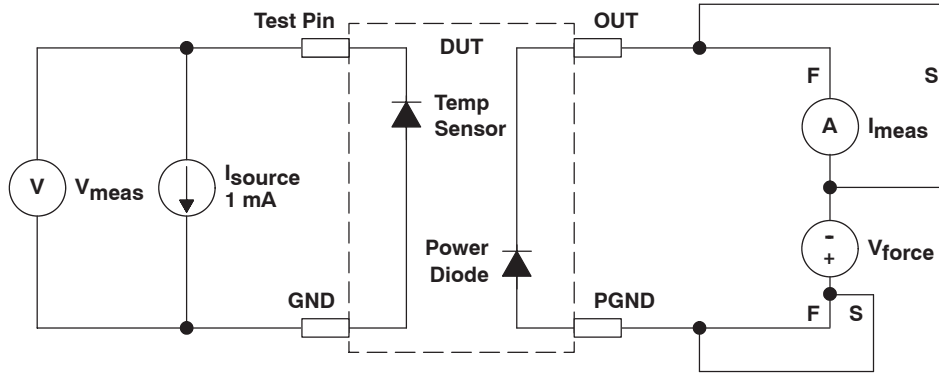

Figure 4. Complete Theta Ja Test Setup
1. Remove the PCB from the temperature chamber or temperature forcing device. Leave the diode connections intact from Section 3. Use the setup described in Section 3 to measure the change in junction temperature as power is dissipated in the DUT. The diode characterized in Section 3 is referred to as the Temp Sensor in the setup depicted in Figure 4.
2. Again, do not power the device during this measurement. The power supply pins can be left floating. Make only the connections to the DUT shown in Figure 4.